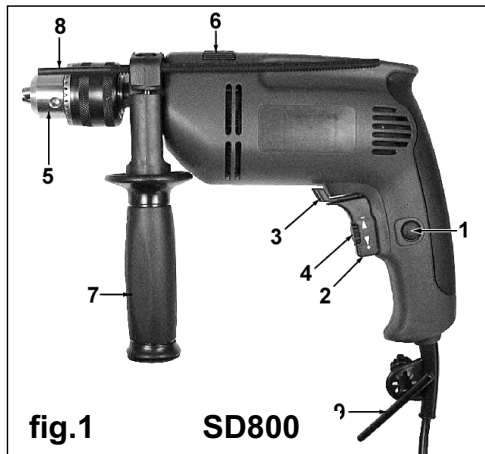

fig.1 SD800
- 3.1.2. **Fitting the side handle.** (See figs.1&2 item 7) Fit supplementary handle grip by placing the handle assembly over chuck head and onto the machine neck. Secure by rotating the handle clockwise until it is tight and the handle can no longer be moved. To ensure a good grip in all circumstances the angle of the handle may be changed by rotating the handle grip anticlockwise until the handle assemble is loose. Rotate the handle to the desired angle and retighten.
- 3.1.3. **Fitting the depth gauge.** (See figs.1&2 item 8) To fit the depth gauge loosen the side handle and pass the gauge through the handle clamp to the required depth. Rotate the handle to the required angle. As the handle is tightened the depth gauge will also be gripped firmly.
- 3.2.1. **ON/OFF Variable speed trigger.** Your drill has a variable speed control on/off trigger (See figs.1&2 item 2) which increases the speed the more the trigger is depressed. Adjacent to the trigger is a button that can be used to lock the trigger in the 'ON' position for continuous extended drilling.
- 3.2.2. **Trigger lock.** (See figs.1&2 item 1) To lock 'ON', depress the trigger, push in and hold the button then release the trigger. Release the lock on button and your drill will continue running accordingly.
- 3.2.5. **Maximum speed setting control.** The variable speed trigger has a small rotating knob incorporated into it (See figs.1&2 item 4) which can be used to control the maximum speed of the drill. When the knob is set to the maximum or + setting the trigger can be fully depressed allowing the drill to turn at its maximum speed. As the knob is turned towards the minimum or - setting the movement of the trigger is restricted so that the drill will turn at a lower pre-set speed when the trigger is fully depressed. This facility is useful when working with materials that should be drilled at a constant, lower speed.
To remove the drill chuck open the chuck fully. Locate the internal screw head and undo turning the screw CLOCKWISE (left handed thread). Stop the chuck from moving by securing the the nut at the base of the chuck (fig1. 5) with a spanner.To replace the chuck reverse the above process.